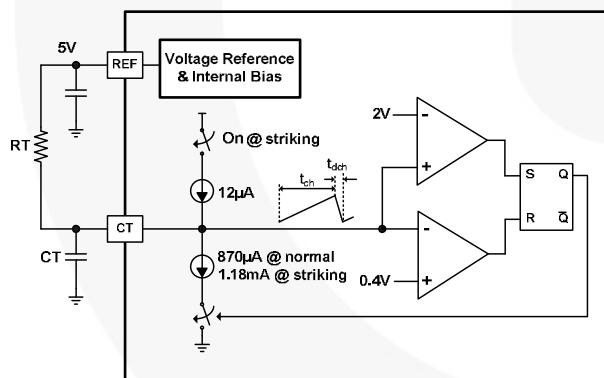

Figure 36. Main Oscillator Circuit
**Main Oscillator:** In normal mode, the external timing capacitor (CT) is charged by the current flowing from the reference voltage source, which is formed by the timing resistor (RT) and the timing capacitor (CT). The sawtooth waveform charges up to 2V. Once CT voltage reaches 2V, the CT begins discharging down to 0.45V. Next, the CT starts charging again and a new switching cycle begins, as shown in Figure 36. The main frequency is programmed by adjusting the RT and CT value. The main frequency is calculated as: